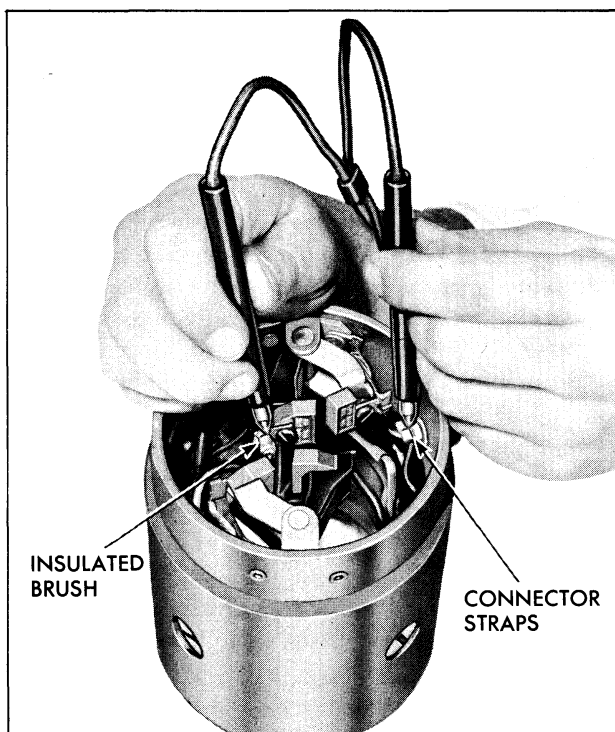

Fig. 11-8 Testing Field Coils for Open
1. Using a 110-volt test lamp, place one lead on each end of the field coils connected in series (Fig. 11-8). If the lamp does not light, the field coils are open and will require repair or replacement.